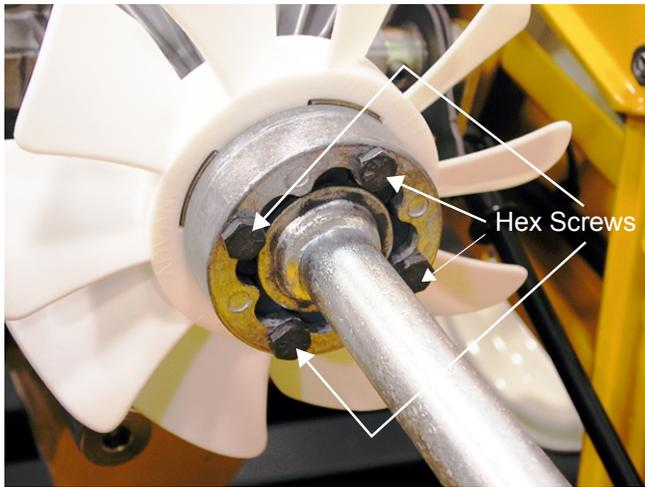

Figure 4
10. Remove all four hex patch screws securing the drive shaft assembly to the pump adapter using a 7/16 in. socket. See Figure 4.